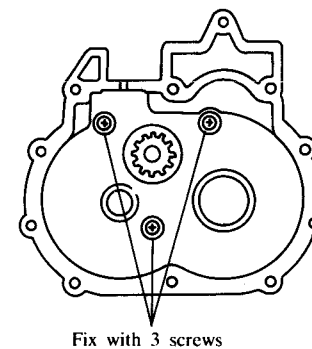

Fig. 52
- (2) Mount the gear box to the motor with the three screws ( $4 \times 25$ ) (Refer to Fig. 52)